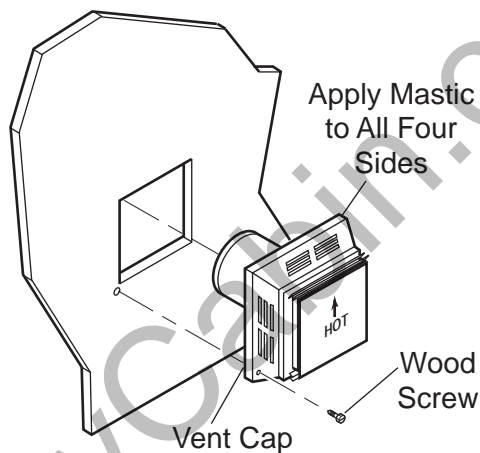

Figure 16 - Installing Horizontal Vent Cap
4. Apply a bead of non-hardening mastic around the outside edge of vent cap. Position the vent cap in the center of the 7½" (190mm) or 9½" (241mm) hole on the exterior wall with the word "UP" on the vent cap facing up. Insure proper clearance of 1" to combustibles is maintained. Attach the vent cap with four wood screws supplied. See Figure 16.